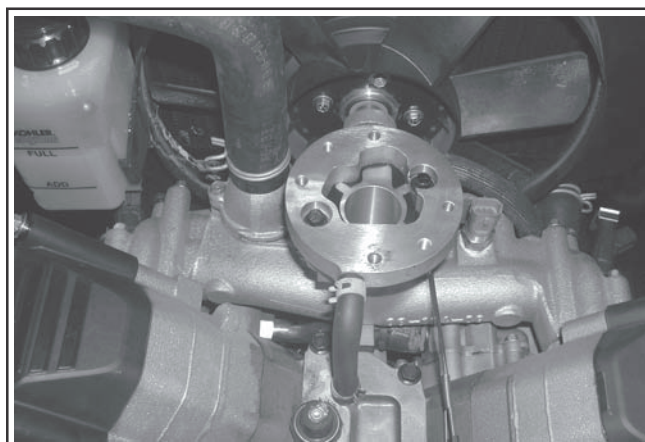

Figure 27. EFI Throttle Body Manifold.
3. Turn the low idle speed adjusting screw in or out and check RPM with a tachometer. See Figure 27.